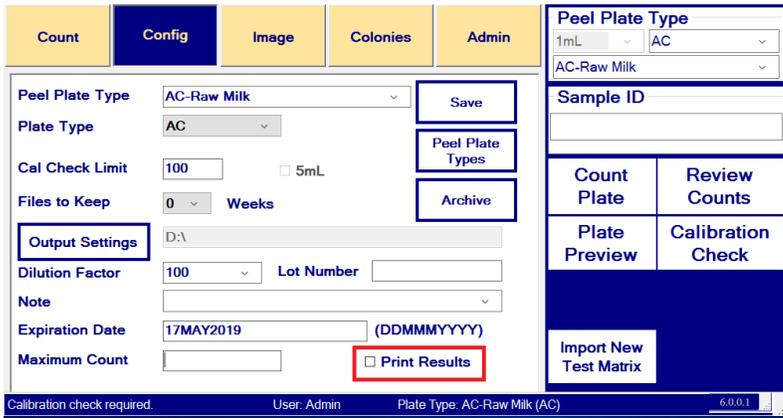

Figure 39
- Check **Print Results** box on **Config** tab, (Figure 39).